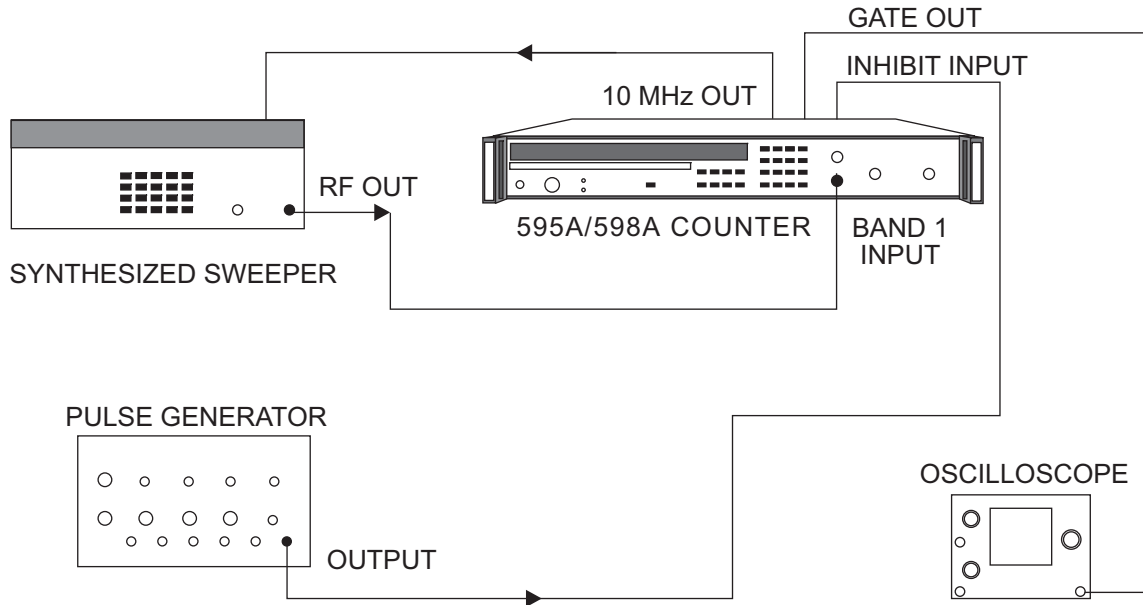

Figure 6-8. Band 1 Gate Error Test Setup
1. Connect the equipment as shown in Figure 6-8 and turn the equipment on.